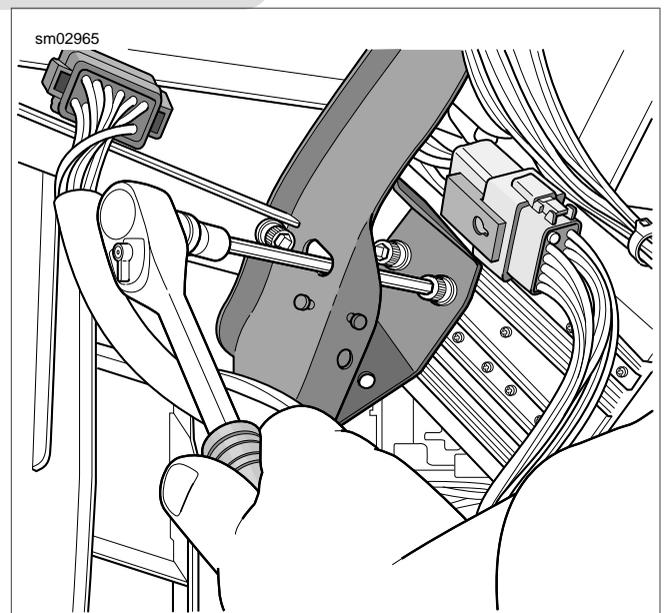

Figure 8-92. Release Radio from Fairing Brackets (FLHTC/U)
5. Using a long shank ball end socket (Snap-on® FABL6E), remove four screws to release radio (storage box on FLHT) from left and right radio support brackets. Use oblong holes in fairing brackets to access screws. See Figure 8-92.